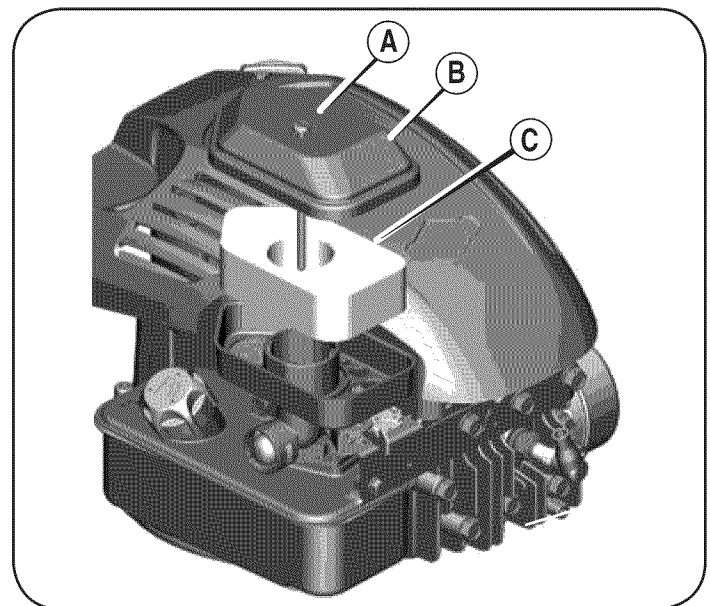

Figure 12
1. Remove the screw (A) from the top of the air filter cover (B). See Figure 12.
3. Remove the foam element (C) from the air filter base.